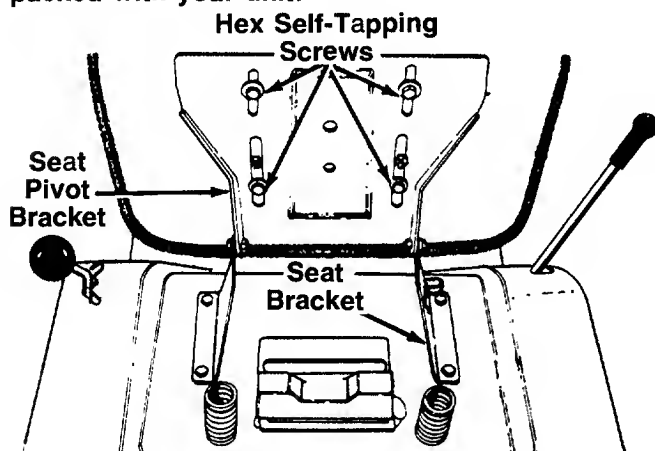

FIGURE 1.
2. Turn the seat around and place in position against the seat pivot bracket, lining up the slotted holes in the pivot bracket with the holes in the seat. Select desired position for the seat, and secure with hex self-tapping screws. See figure 1.